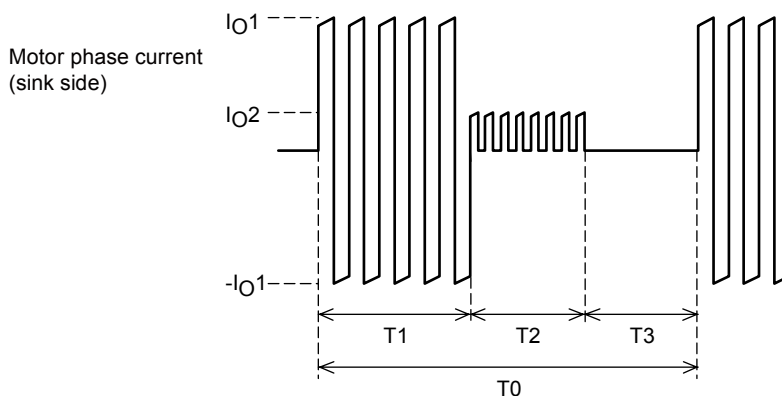
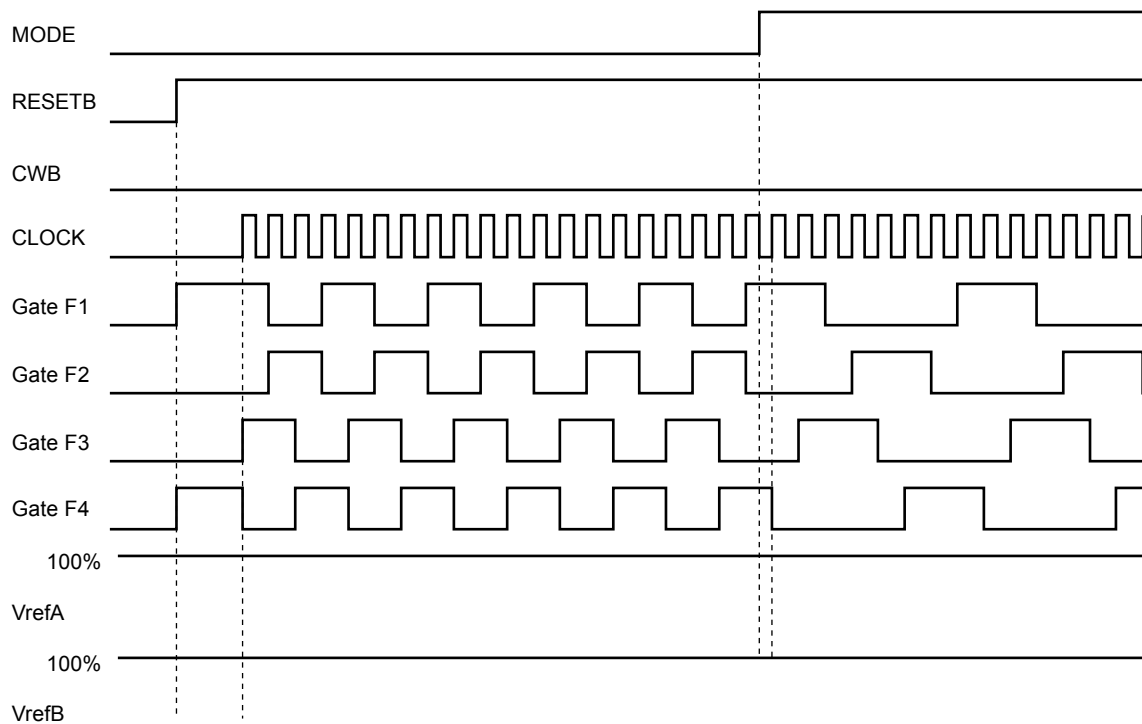
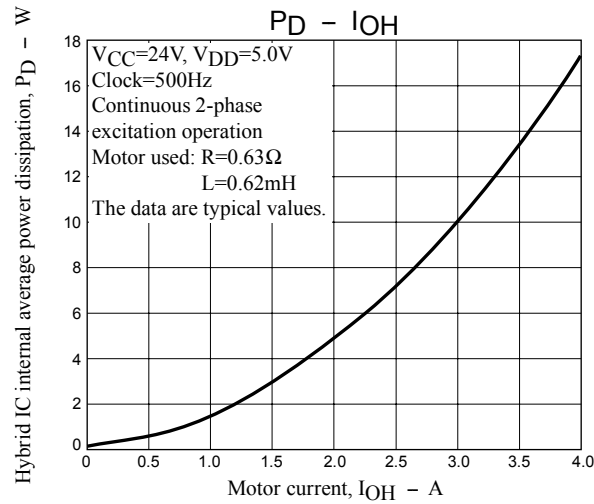

Figure 4 Motor Current Timing
Figure 5 Hybrid IC internal average power dissipation, P_D - Motor current, I_{OH}
Figure 6 Substrate temperature rise, ΔT_c - Hybrid IC internal average power dissipation, P_D
As shown in figure 6, the value of ΔT_c increases as the hybrid IC internal average power dissipation PD increases. As shown in figure 5, PD increases with the motor current. Here we describe the actual PD calculation using the example shown in the motor current timing chart in figure 4.
Since there are periods when current flows and periods when the current is off during actual motor operation, PD cannot be determined from the data presented in figure 5. Therefore, we calculate PD assuming that actual motor operation consists of repetitions of the operation shown in figure 4.
Note that figure 4 presents the concepts here, and that the on/off duty of the actual signals will differ.
If the value calculated in formula (I) above is under 1.4W, then from figure 6 we see that operation is allowed up to an ambient temperature T_a of 60°C.
While the operating range when a heat sink is not used can be determined from formula (I) above, figure 5 is merely a single example of one operating mode for a single motor.
For example, while figure 5 shows a 2-phase excitation motor, if 1-2 phase excitation is used with a 500Hz clock frequency, the drive will be turned off for 25% of the time and the dissipation PD will be reduced to 75% of that in figure 5.